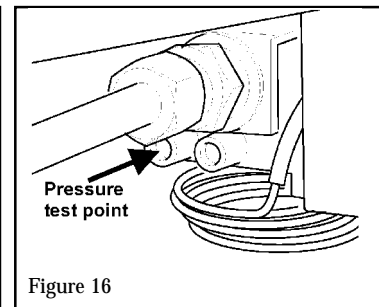
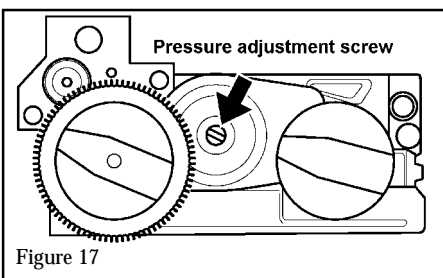

Figure 16
Figure 17
18. Fit a manometer to the pressure test point (See figure 16). Rotate the thermostat knob anti-clockwise to full on position. Light the appliance. Check for leaks downstream of the valve. Adjust the pressure setting screw (See figure 17) to $26.2 \pm 0.75 \text{ mbar}$ ($10.5 \pm 0.3 \text{ in. w.g.}$).